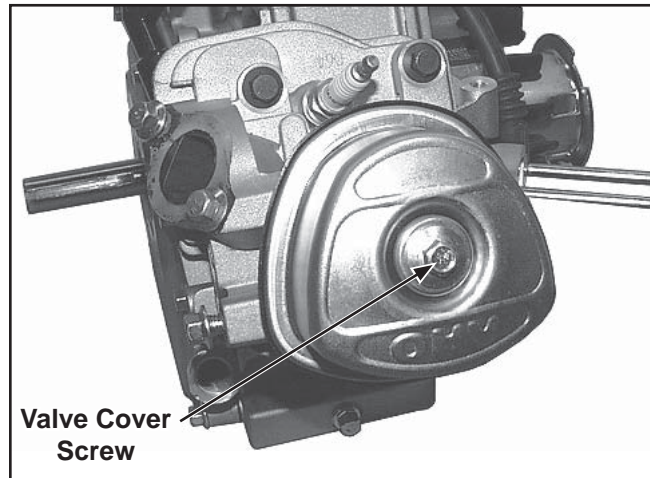

Figure 11-53. Torquing Valve Cover Screw.
2. Position the valve cover/gasket assembly on the head. Install the hex flange screw and torque to **10 N·m (89 in. lb.)**. See Figure 11-53.